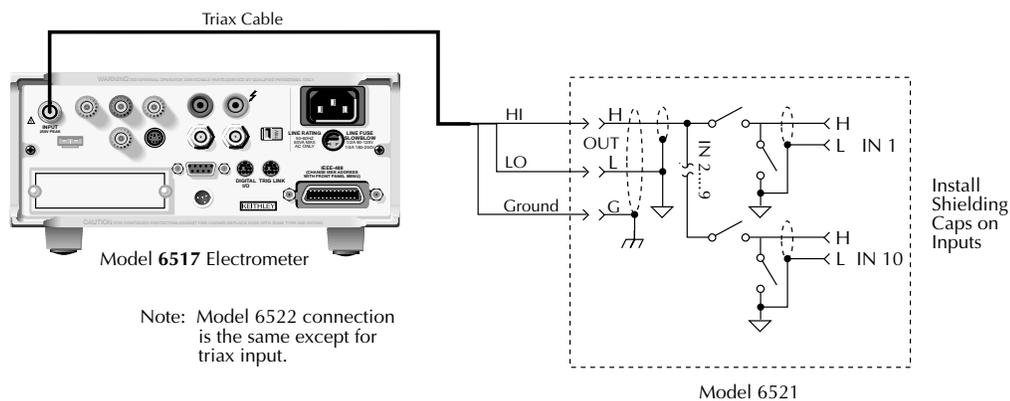

Figure 4-1
2. Connect the scanner card triax output cable to the Model 6517 INPUT jack. (See Figure 4-1.) Also install the BNC (Model 6521) or triax (Model 6522) shielding cap on each channel 1 input cable connector.